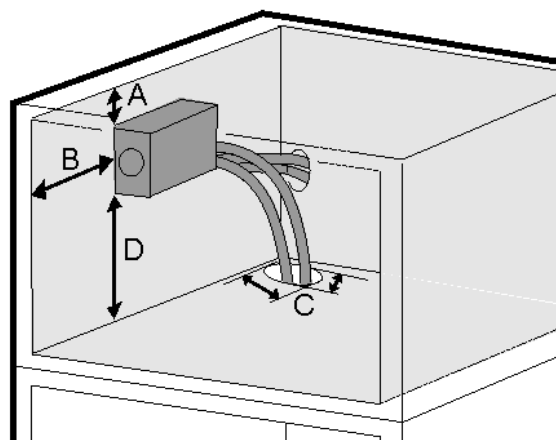

Fig. 8
► Maintain the dimensions shown in Fig. 8 so that the filter can be replaced and the cover can be removed.